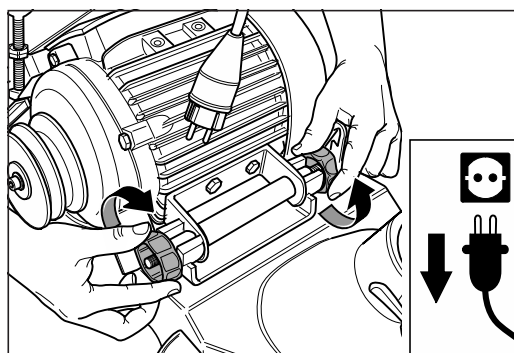

Fig. 39 Tighten the two motor nuts.
- 5 Tighten the two motor nuts (fig. 39) **slightly**.
- 8 Tighten the two motor nuts (fig. 39).